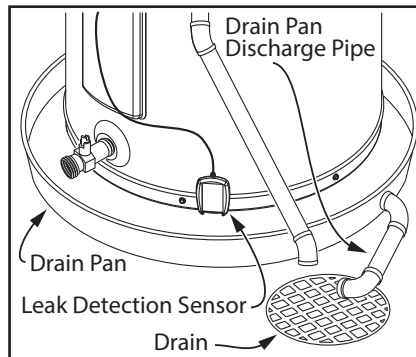

Figure 6 - A suitable drain pan piped to an adequate drain can help protect flooring from leaks and drips.
- Suitable drain pan (see Figure 6 on page 8)
- Install a suitable drain pan (available in stores) under the water heater (Figure 6) to catch condensation or leaks in the piping connections or tank. Most codes require, and we recommend, installing the water heater in a drain pan that is piped to an adequate drain. The drain pan must be at least two inches wider than the diameter of the water heater. Install the drain pan so the water level would be limited to a maximum depth of 1-3/4".
- In a suitable drain pan piped to an adequate floor drain or external to the building (See Figure 6 on page 8).